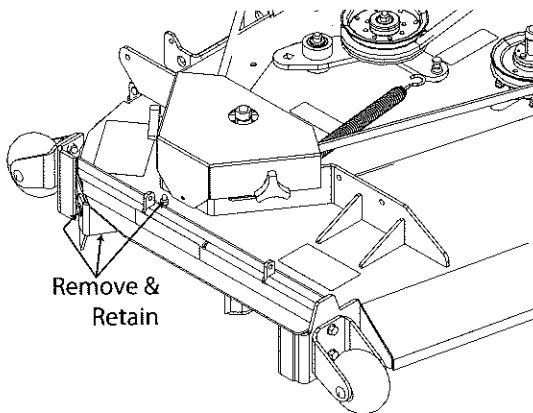

Figure 3-2. Removing the Turbo Baffle
3. Remove the turbo baffle from the cutter deck. See Figure 3-2.